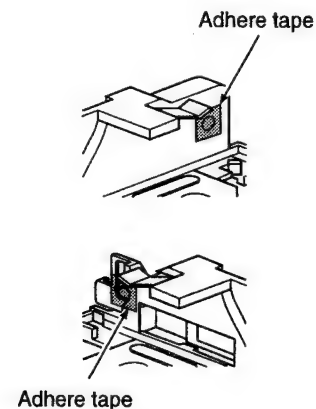

Fig. 1-4-5
- (1) Put some tapes on both left and right side of the cassette holder so that the start/end sensors are not affected by the light. (Fig. 1-4-5)
- (2) Remove the top bracket.